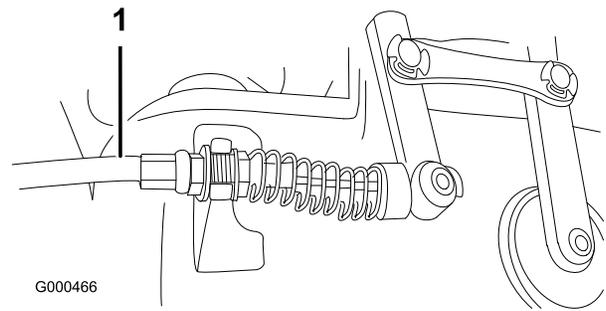

Figure 50
2. To increase cable tension, loosen front cable jam nut and tighten back cable jam nut (Figure 50) (located on top of gear box) until the reel cable force adds 7 to 10 lbs. of additional handle force measured at the control knob.